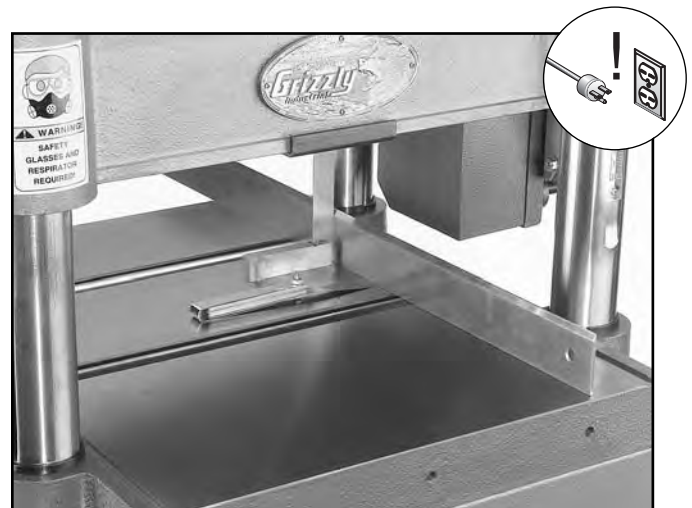

Figure 39. Inspecting bed roller height.
- Use a feeler gauge to measure the clearance between the bottom of the straight edge and the table. Ideal clearance is between 0.006" and 0.002". Measure in several places. This measurement must be consistent across the entire table. **See Figure 39.**